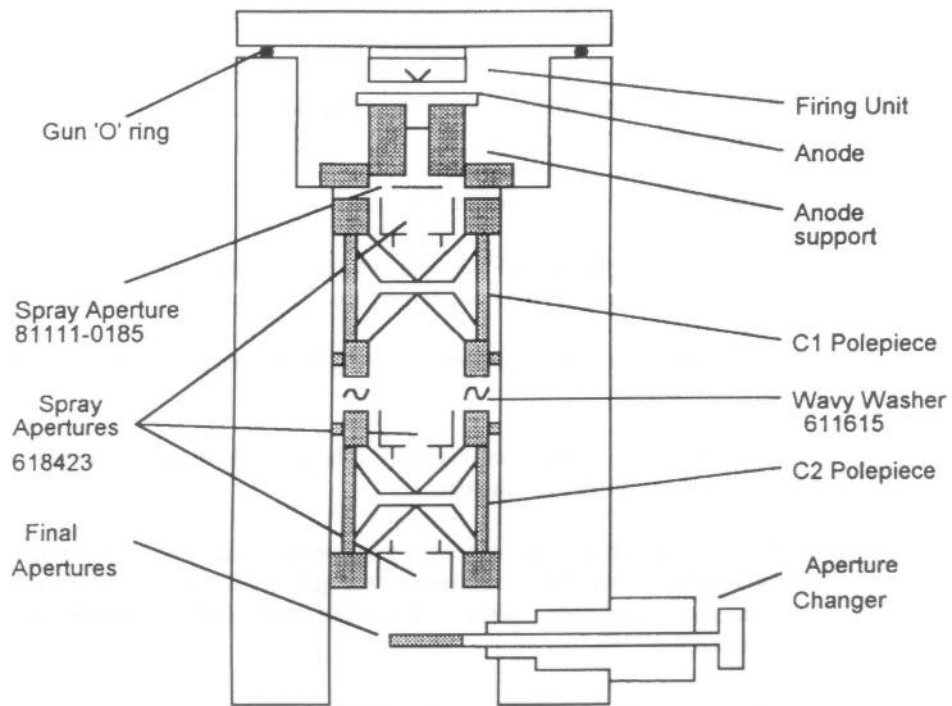

Figure 5.1 The Column
4. Lift out the anode (see Figure 5.1).